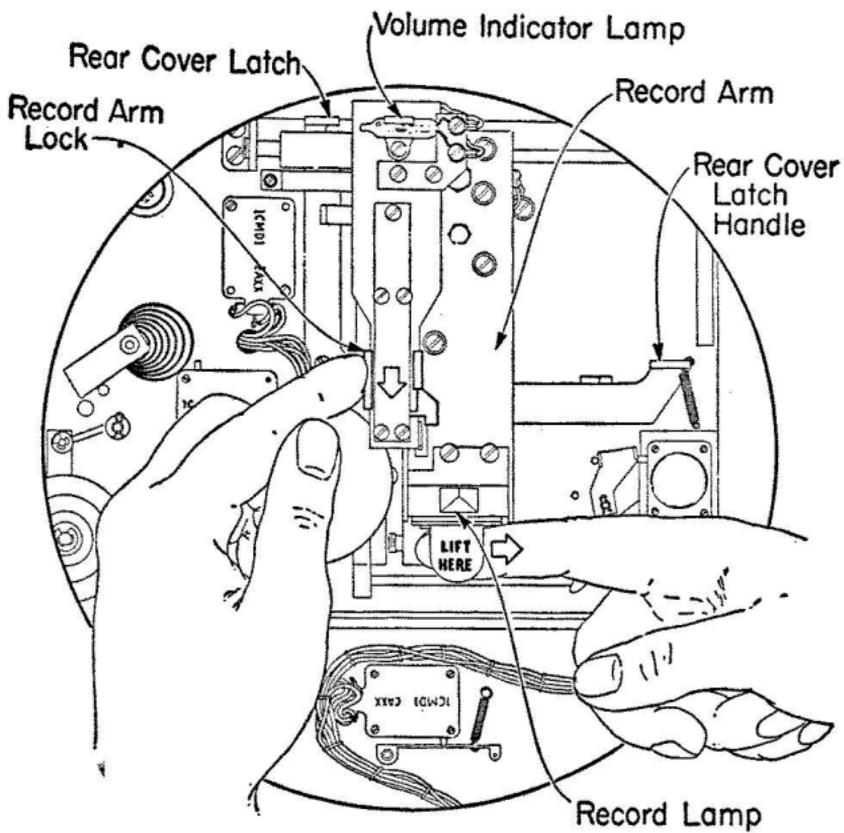

Fig. 3
- (b) Secure the recording arm against its left stop by means of the slide lock (see Fig. 3).
- (l) Release the recording arm by raising the recorder head slightly and pushing back the slide lock (Fig. 3). If necessary, untie the cord securing the recorder head and carefully remove the corrugated paper used for initial shipment.